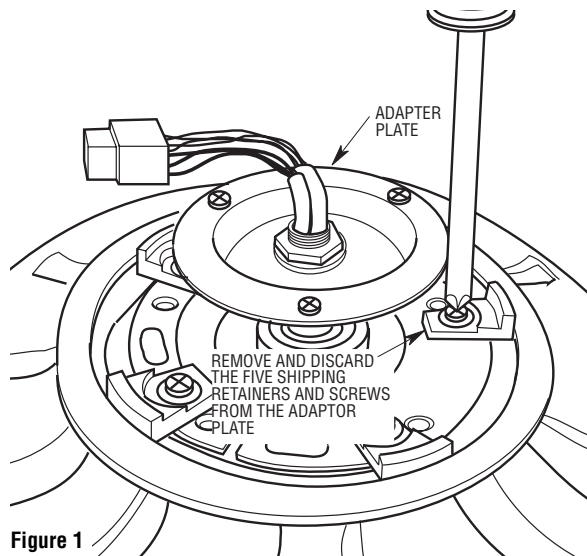

Figure 1
1. One by one unscrew each screw and discard screw and shipping retainer (Figure 1).